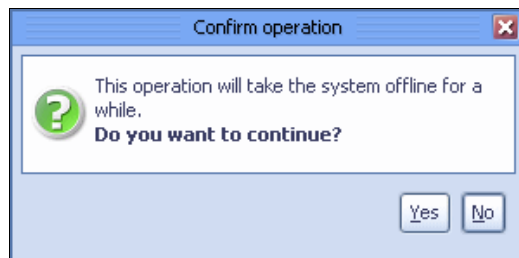

Figure 4-11 Create new library: Confirm operation window
18. The Confirm operation window opens (Figure 4-11). Click **Yes**. The ProtecTIER system temporarily goes offline to create the library.